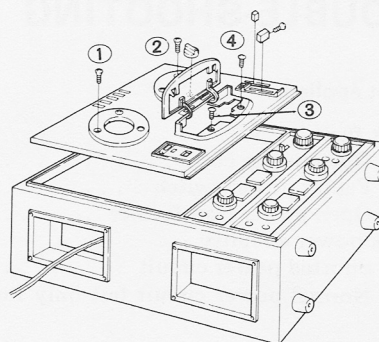

Fig. 1
3. Remove screws 1, 2, 3, 4, in Fig. 1.